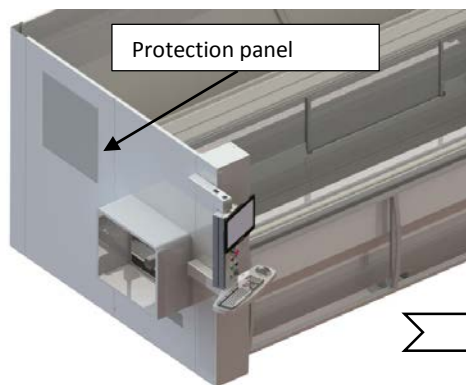

Fig. 67
1. Remove the left side protection panel by unscrewing the socket head cap screws using a 4-mm Allen wrench (Fig. 67),